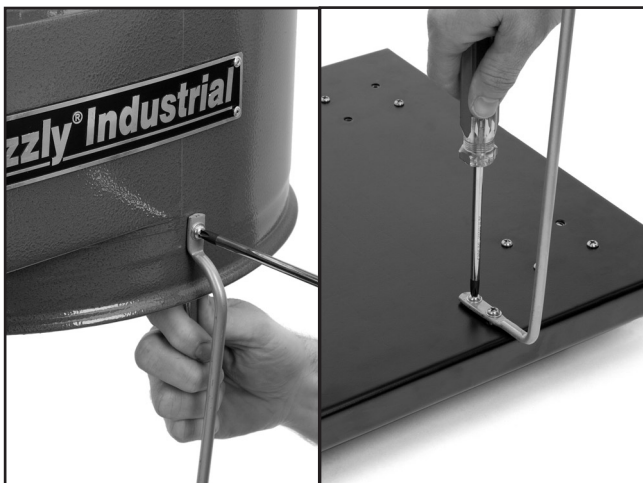

Figure 9. Securing collection bag support rods.
7. Secure the two collection bag support rods to the base plate with four M5-.8 x 15 Phillip head screws and four flat washers, and to the collector using two M5-.8 x 15 Phillip head screws, two flat washers, and two hex nuts as shown in **Figure 9**.